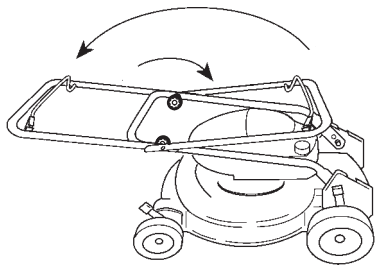

Figure 30
2. Rotate the handle toward the front of the lawn mower (Fig. 30).